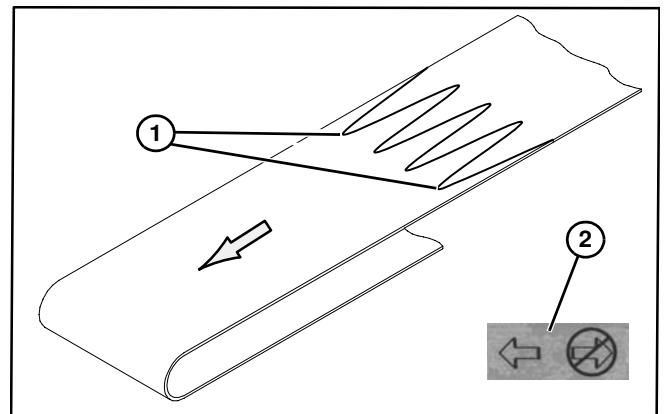

Figure 45
1. Orient belt so splice outer fingers (**Figure 45, item 1**) point in the direction of belt travel as identified by the conveyor directional label (**Figure 45, item 2**).
2. Orient belt so splice leading fingers (**Figure 45, item 1**) point in the direction of belt travel as identified by the conveyor directional label (**Figure 45, item 2**).